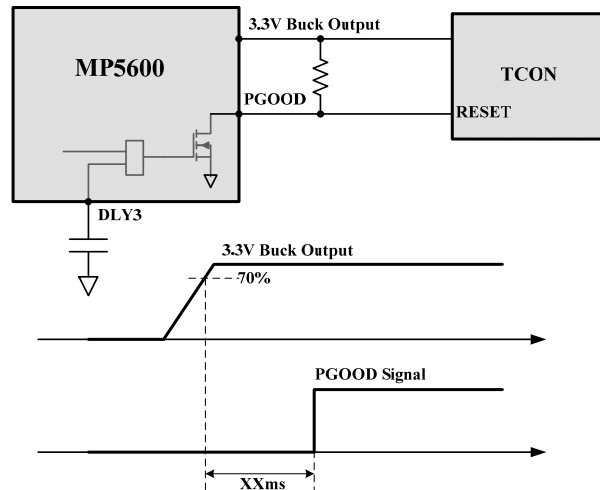

Figure 10—Open Drain Output of Power Good Signal
3. Once the buck regulator reaches 70% regulated value, the power good signal will be sent to indicate that the buck regulator is ready with some delay time programmed by the capacitance on DLY3 pin. See figure 10.